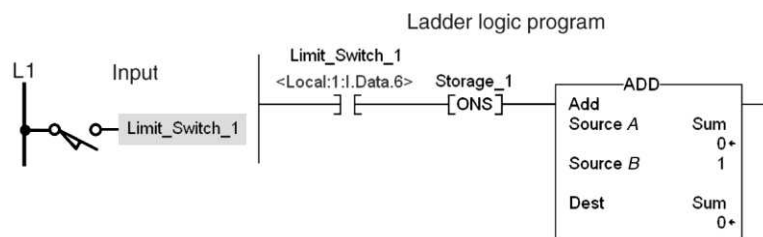

Figure 15-11 One shot
16. For the one shot program of Figure 15-11, the ADD function is executed 16. _____